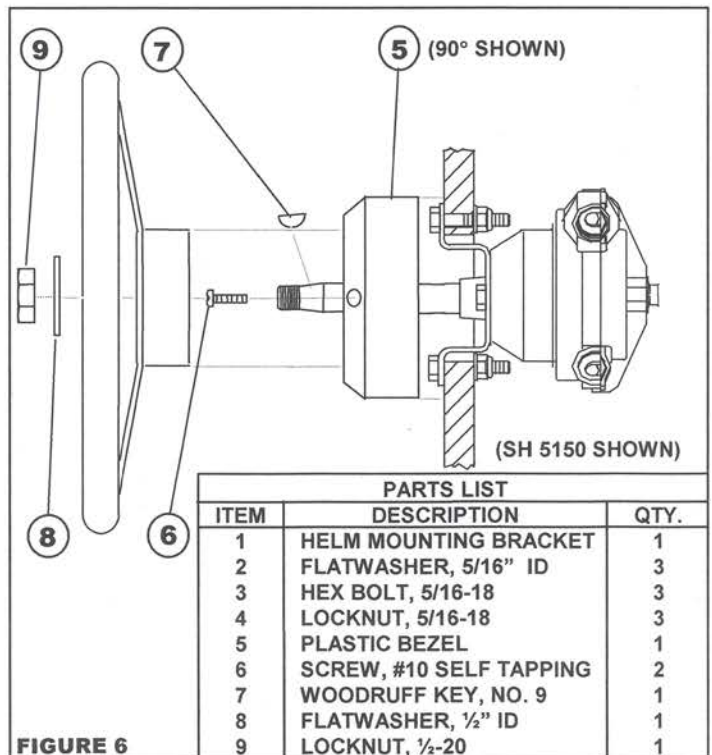

FIGURE 6
1. Center bezel (Item 5) around shaft and fasten in place using two (2) self-tapping screws (Item 6) as shown in Figure 6. Tighten snugly, taking care not to over-torque which may crack the bezel or strip screw threads.